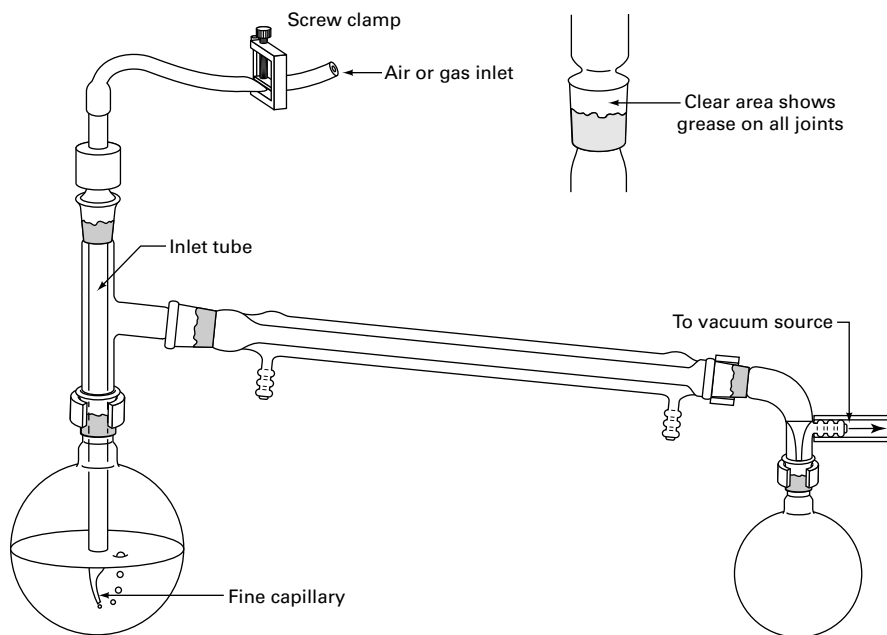

FIGURE 19.3 A vacuum distillation setup.
2. Another liquid that boils 25°C higher than the first liquid. They must dissolve in each other. This is like the **simple distillation** with the changes shown (Fig. 19.3).
2. The thermometer can be replaced by a **gas inlet tube**. It has a long, fine capillary at one end (Fig. 19.3). This helps to stop the *extremely bad bumping* that goes along with vacuum distillations. The fine stream of bubbles through the liquid produces the same results as a boiling stone. Boiling stones are useless, since all the adsorbed air is whisked away by the vacuum and the nucleating cavities plug up with liquid. The fine capillary does not let in a lot of air, so we are doing a vacuum distillation anyway. Would you be happier if I called it a **reduced-pressure** distillation? An inert gas (nitrogen?) may be let in if the compounds decompose in air.